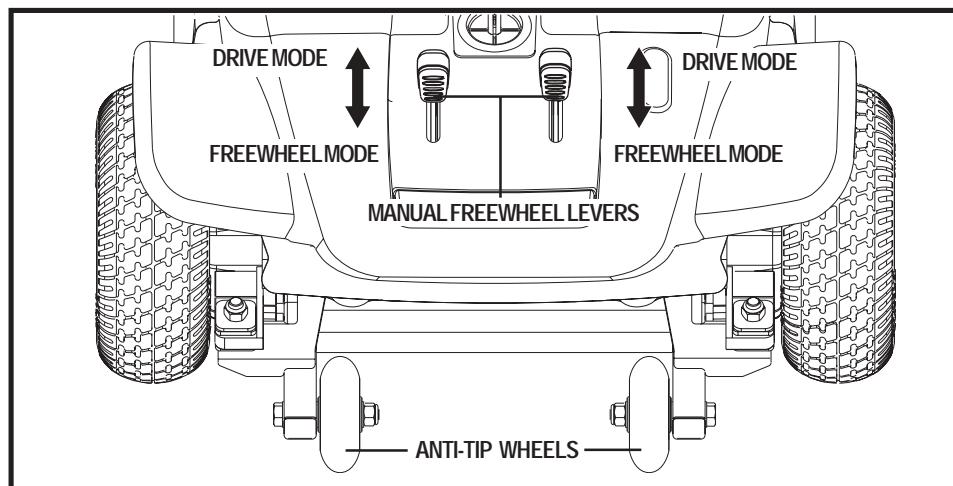

Figure 7. Back of Power Base
1. Locate the levers on the rear section of the power base. See figure 7.
The anti-tip wheels are an integral and important safety feature of your Go-Chair. They are bolted to the frame at the rear of the chair. See figure 7.